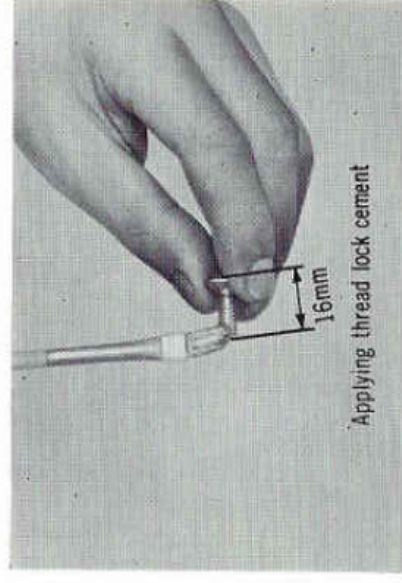

Fig. 8-3-14
9. When installing the **inner valve seat**, apply thread lock cement to the end of screws and tighten them firmly. If the thread lock cement climbs up thread and adheres to the surface of the inner valve seat, wipe it away. As the inner valve sheet fitting screws, be sure to use flat head countersunk screws with the whole length of 16 mm (0.63 in) to keep them from touching the crankwheel. (Fig. 8-3-14, 15)